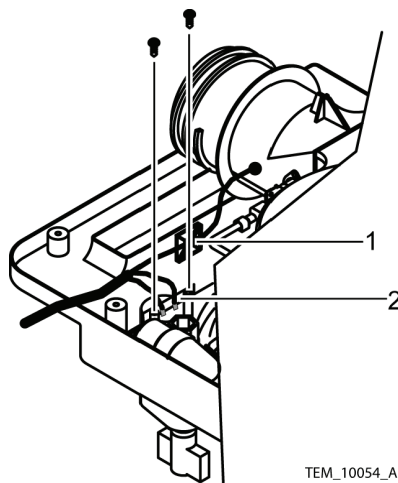

Figure 80. Thermistor Cable Installation
37. Install the thermistor cable terminal board (Figure 80, item 2). Tighten the screw to 4 to 6 in/lbs (10 to 15 cm/kg).
38. Install a cable tie around the thermistor cable and the cable tie mount on the rear cover assembly (Figure 80, item 1).